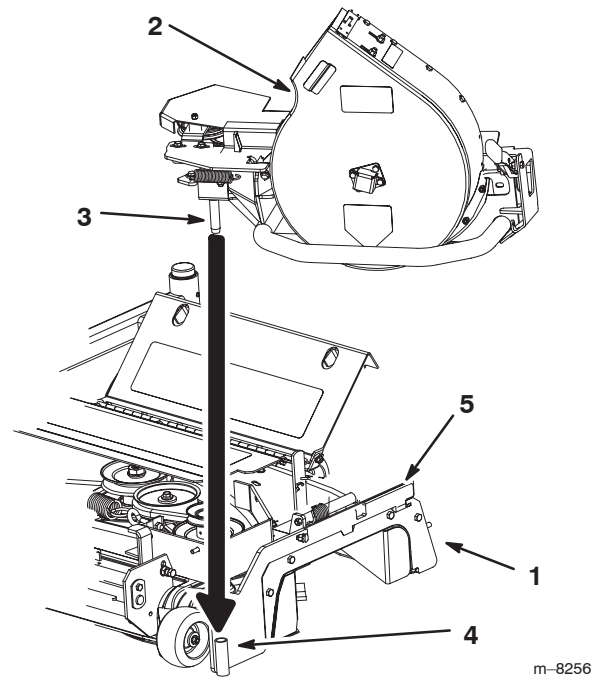

Figure 14
3. Slide the blower assembly peg into the hole on the mounting plate (Fig. 14).